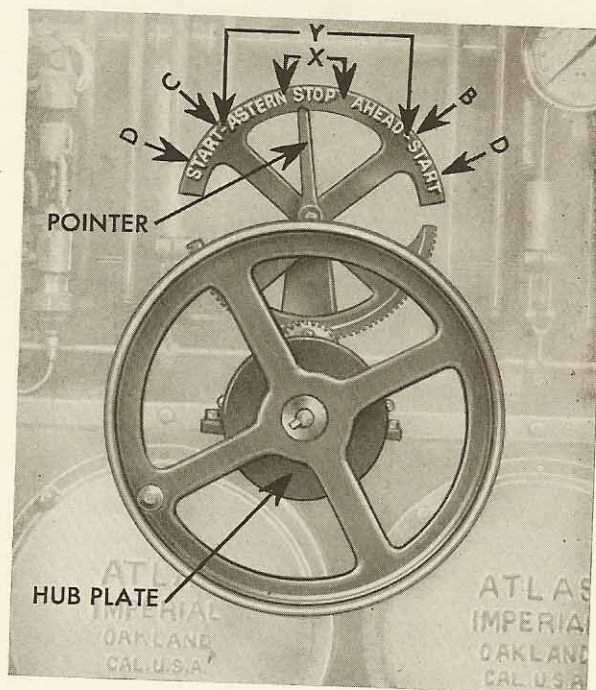
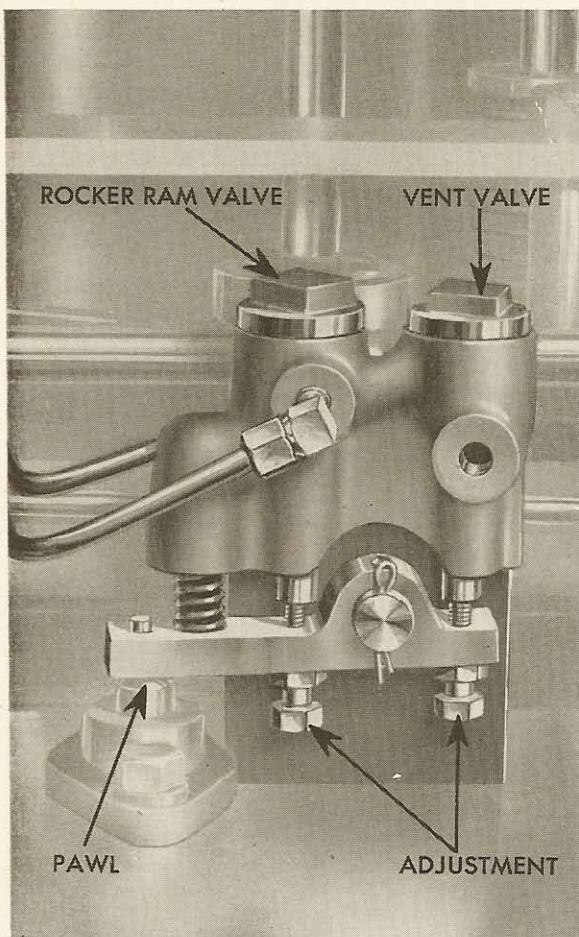
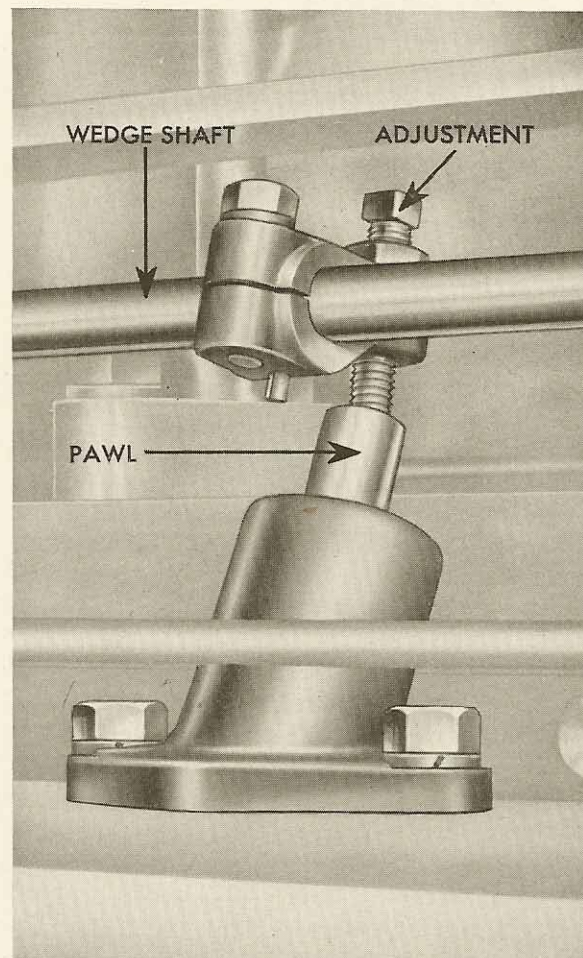

FIGURE 6-5
FIGURE 6-6
FIGURE 6-7
Familiarize yourself first with two shallow holes which are in the back of the wheel hub plate, Figure 6-5. Bolted to the latch box and in line with these two holes is a spring loaded pawl. When the hand wheel is turned back toward the stop position, about 90 degrees from either end of its travel, the spring pawl will drop into one of the holes in the hub plate and position the latch shaft in the correct "ahead" or "astern" position. The pointer will then be at either B or C, Figure 6-5.
Movement of the wheel from either "ahead" or "astern" holes on to the end of travel is the equivalent of a movement of the pointer from either B to D or C to D, Figure 6-5, and is the starting maneuver.
As the pointer leaves either B or C on the way to the nearest D, the pilot valve shown in Figure 6-6 is opened by a cam on the latch shaft. This valve admits air to the rocker shaft ram which controls the rocker shaft and master air valve. When the rocker shaft is revolved a part of a turn, the air start valves are brought into action and the master air valve on the manifold is opened, permitting air to pass from the storage tanks into the starting manifold. This is fully described in paragraphs 21 to 25 of Section 5.
When the pointer is anywhere between the x marks, Figure 6-5, another pilot valve, identical with the one shown in Figure 6-6, is opened. This valve admits air to the flywheel brake cylinder. This explains why the operator must wait at or near the stop position, until the engine stops revolving before attempting to reverse the direction of rotation.
At any position between the two "Y" marks, Figure 6-5, the device shown in Figure 6-7 withdraws the fuel wedges, cutting out the action of the spray valves. The pawl is moved upward by a cam on the latch shaft and this movement is transferred to the wedge shaft through the lever and adjusting screw.
18. PRELIMINARY CRANKING: Close the isolating valves and open the snifters. Move the hand wheel to the end of its travel or pointer position "D," Figure 6-5. The engine will now revolve on air, and one or two turns should be sufficient to blow out any accumulation of fuel in the cylinders. Turn the wheel back to the stop position. Close the snifters and open the isolating valves.
See that the governor lever and the fuel regulator handle are in the slow-speed positions. Turn the wheel so the pointer is at the ahead "D," Figure 6-5, position. As soon as the engine has attained starting speed, move the pointer back to "B." The engine should now be turning over slowly on fuel. Go through the running check-up described in paragraph 11.
21. REVERSING THE ENGINE: Move the governor control lever and the fuel regulating valve to the slow-speed positions. Turn the hand wheel to the stop position and WAIT IN THAT POSITION UNTIL THE ENGINE STOPS REVOLVING. Turn the hand wheel to the astern "D" position, Figure 6-5. Wait until the engine attains starting speed. Turn the hand wheel back to "C," which is the astern running position. Adjust the governor control lever and the fuel regulating valve for the desired speed.